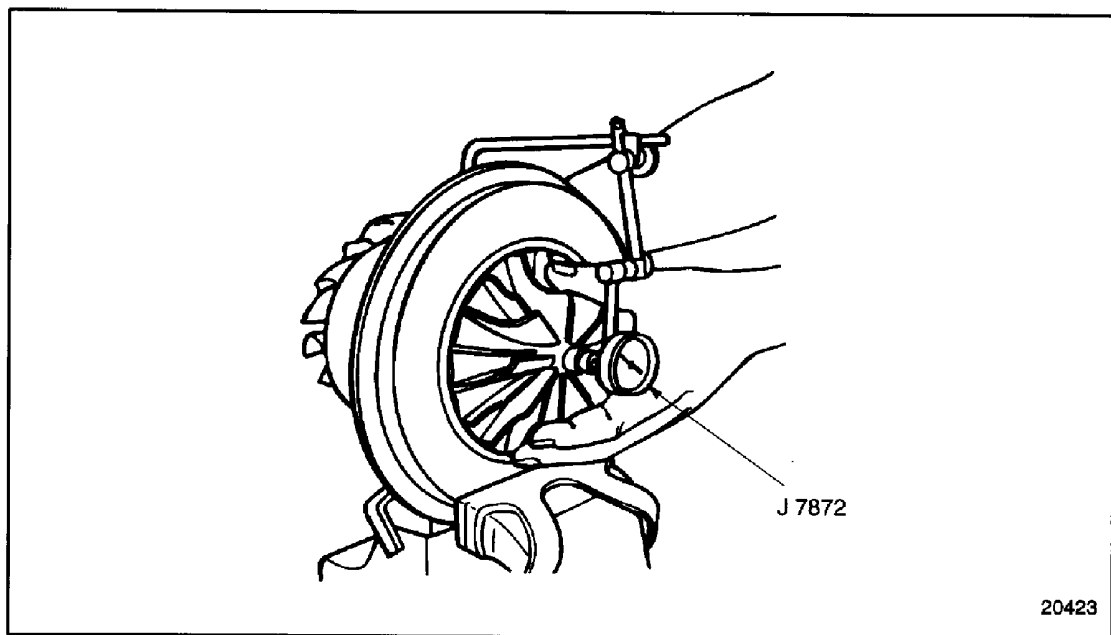

Figure 6-44 **Checking Bearing Axial End Play**
- [a] Clamp the center housing assembly in a bench vise equipped with soft jaws. See Figure 6-44.
- [b] Fasten the dial indicator and magnetic clamp, part of magnetic base dial indicator set, J 7872-2 part if J 7872, to the center housing so that the indicator tip rests on the end of the rotating shaft on the compressor side. See Figure 6-44.